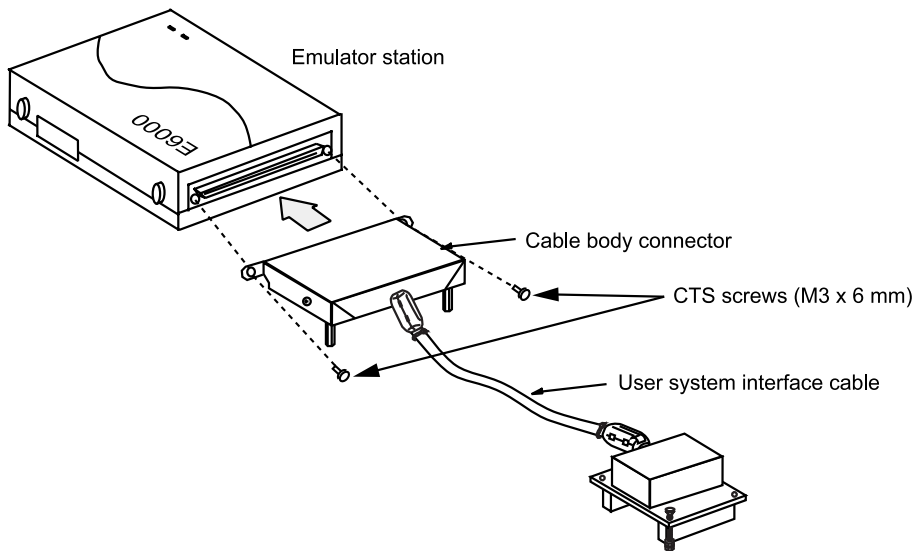

Figure 2 Connecting User System Interface Cable to Emulator Station
2. After making sure the direction of the cable body connector is correct, firmly insert the cable body connector into the emulator station socket, and fasten the emulator station with two CTS screw (M3 x 6 mm). (figure 2)